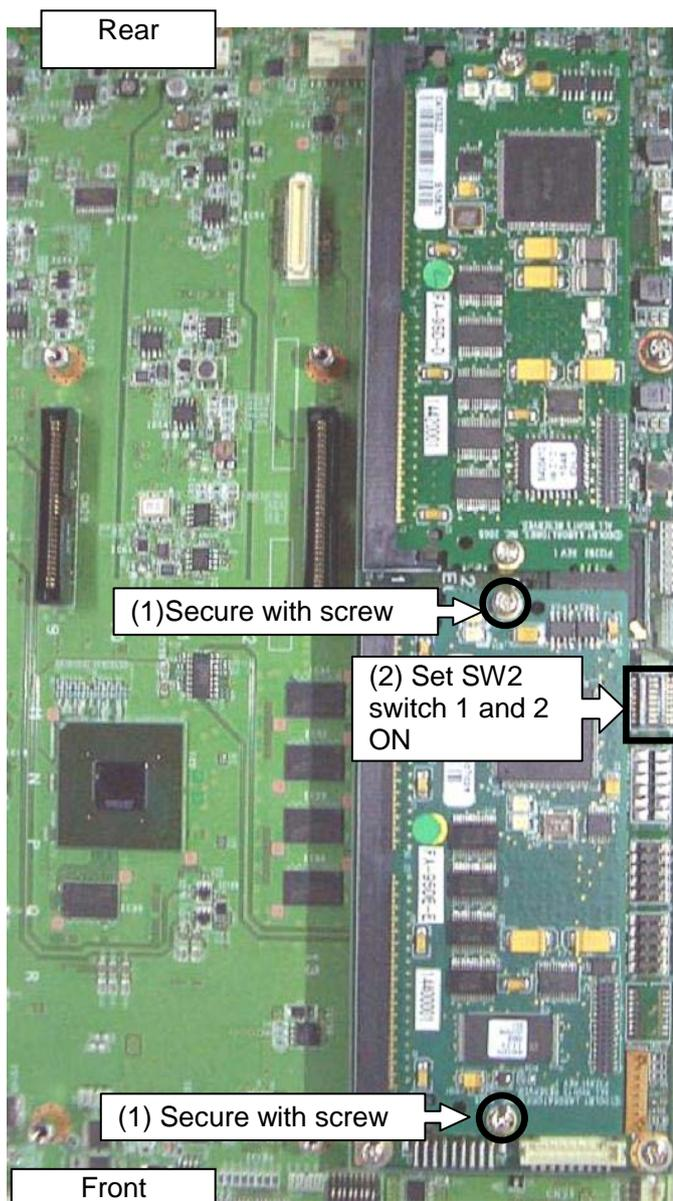

Fig. 16 FA-95DE-E card fixing
- Secure the FA-95DE-E onto the FA-95D-D card using the supplied double-SEMS screws. (Fig. 16 (1)) Also, set SW2 DIP switch #1 and #2 to ON. (Fig. 16 (2))